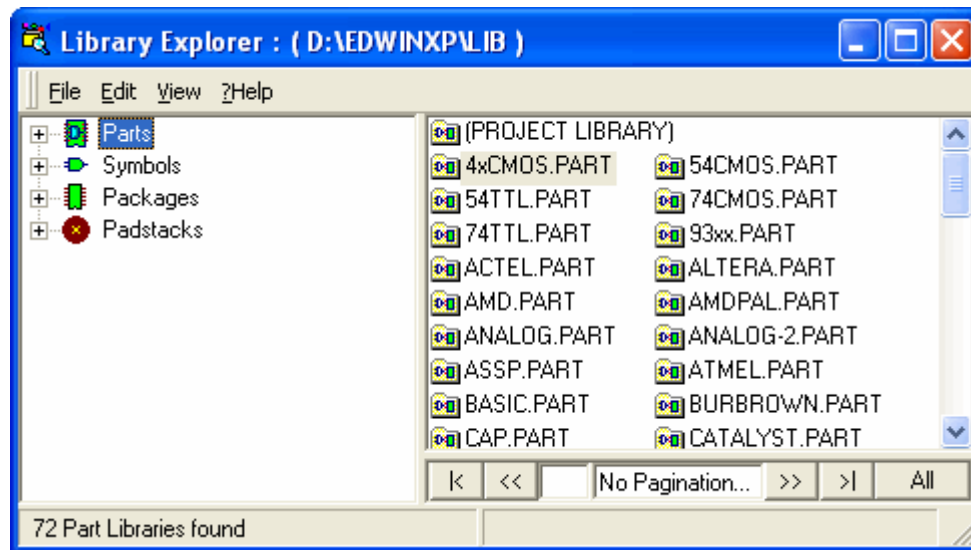

Fig.3.26. Library Explorer
1. Click on the option tool  to open Library Explorer as shown in Fig.3.26.